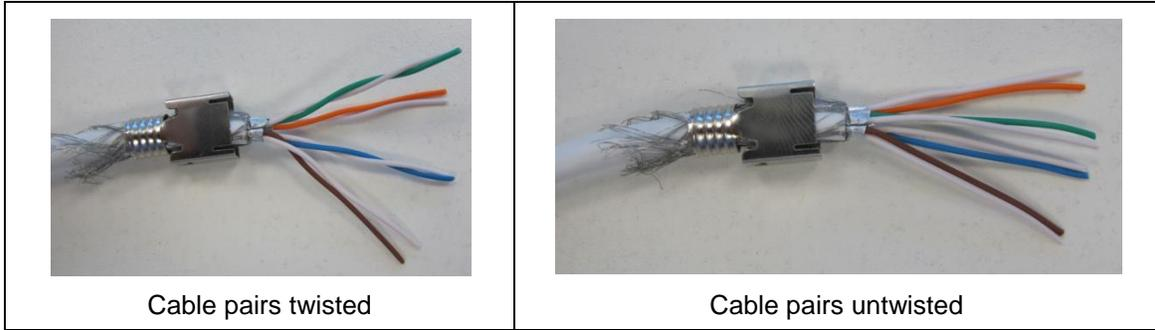

Figure 4. Untwist Cable Pairs
1. While firmly holding the cable jacket next to the stripped end, untwist the pairs as much as possible as shown in Figure 4.